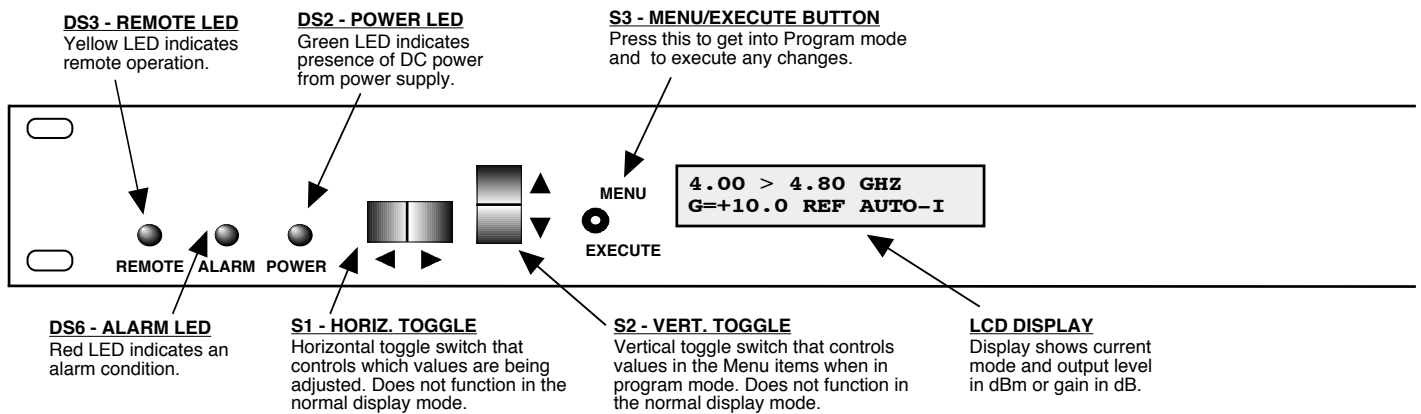

FIGURE 2.2 3116-4048 Front Panel Controls and Indicators
Figure 2.2 shows the front panel controls and indicators.
5. Be sure DS2 (green, DC Power) is on and DS6 (red, Alarm) is off (Figure 2.2).
Alarm indications appear on the LEDs (see Figure 2.2).